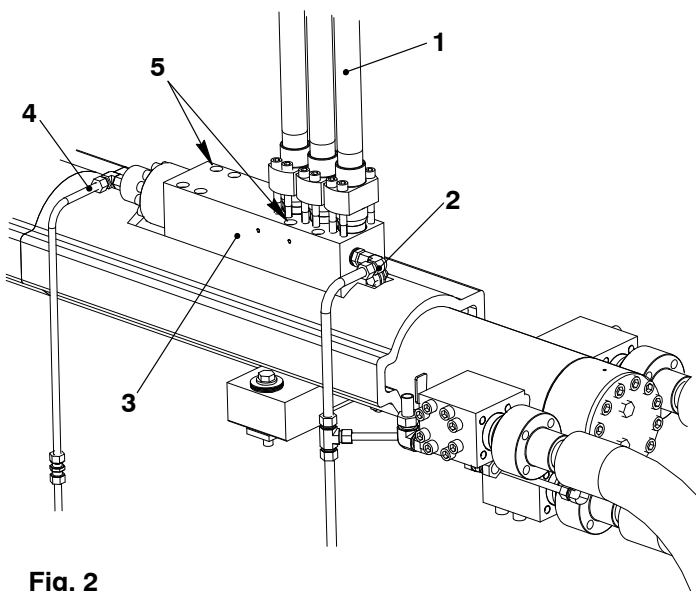

Fig. 2
- 7) Clean the work area adjacent to the FLV (3, Fig. 2).
- 8) Remove the HP fuel pipes (1), refer to 8733-1, paragraph 1 and paragraph 2.
- 9) Remove the leakage pipes (2, 4) from the flow limiting valve (3).